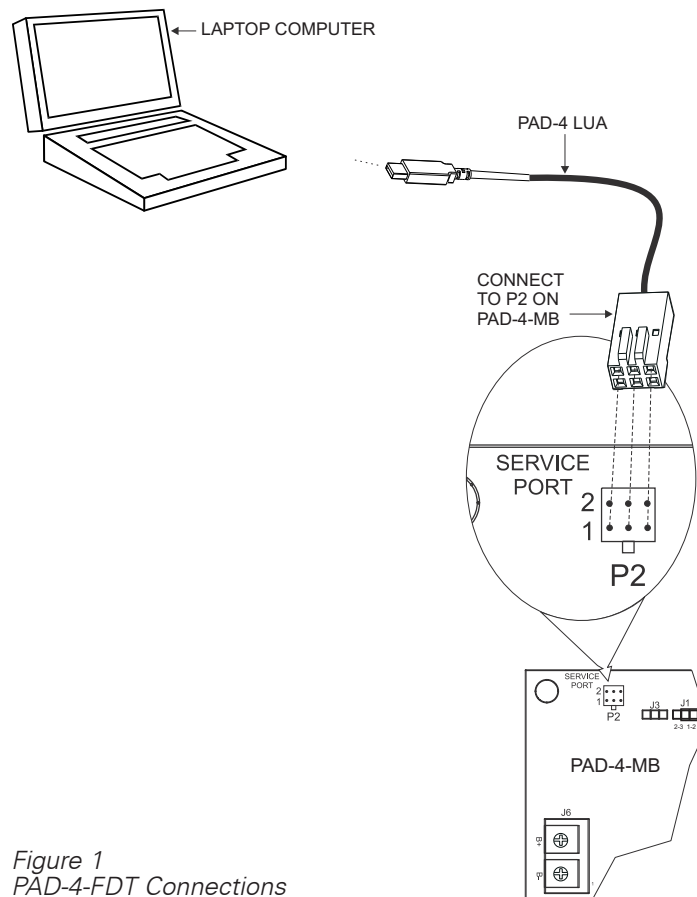

Figure 1
3. Plug the USB Adaptor into a USB port of the laptop computer (Refer to Figure 1).
5. Connect the 6-position plug of the PAD-4 LUA into the Service Port (P2) of the PAD-4 main board EXACTLY as shown in Figure 1. Also, place shorting plug J1 on position 1-2 as indicated in Figure 1.
3. After the FW upload is completed, move jumper J1 back in position 2-3 as indicated in Figure 1.